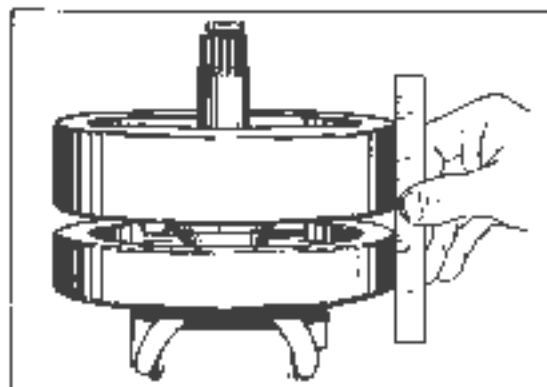

Figure 3-43. Squaring Flywheel Faces
2. Position right flywheel assembly in vise, crank pin up. Wipe crank pin taper clean. Slip bearings and connecting rods over crank pin with forked rod to rear cylinder. Wipe crank pin hole in left flywheel clean and dry. Install left flywheel and tighten nut lightly. Hold steel straightedge along outer face of wheel rims at 90 degrees from crank pin as shown in Figure 3-43. Tap outer rim of top wheel until wheels are concentric. Tighten nut, recheck with straightedge at frequent intervals. Use soft metal hammers to realign wheels. To prevent flywheel assembly from turning in vise while tightening nut, insert a rod 5 in. long and about 1/2 in. in diameter through holes in flywheels and between vise jaws so that nut bears against some part of the vise.